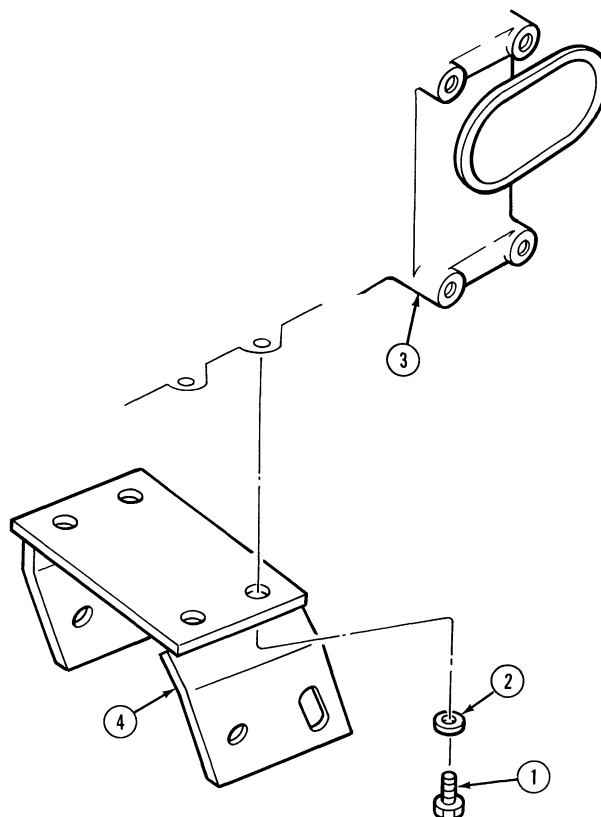

Figure 1
1. Attach the rear mounting bracket, (4), Figure 1 to the underside mid section of the tractor using four M12 x 1.75 x 30 mm hex hd. bolts, (1), lockwashers, (2), and stud and thread sealer. Torque the bolts to 51-59 lbs.-ft.